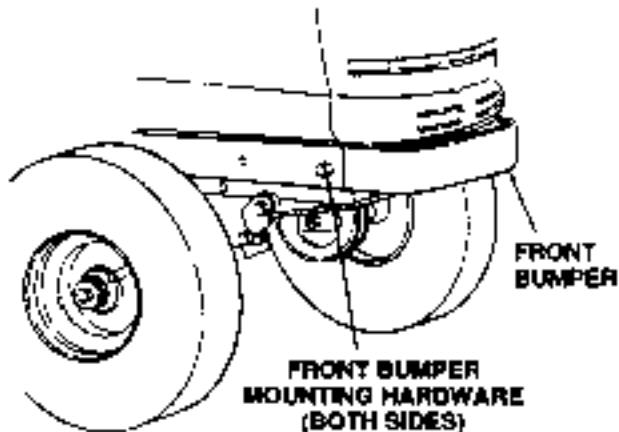

Figure 7-10. Removing Front Bumper.
2. Remove the front bumper from the frame (see Fig. 7-10) by removing the hex wash. tapp screw from each side. Store the screws and bumper for later reassembly.